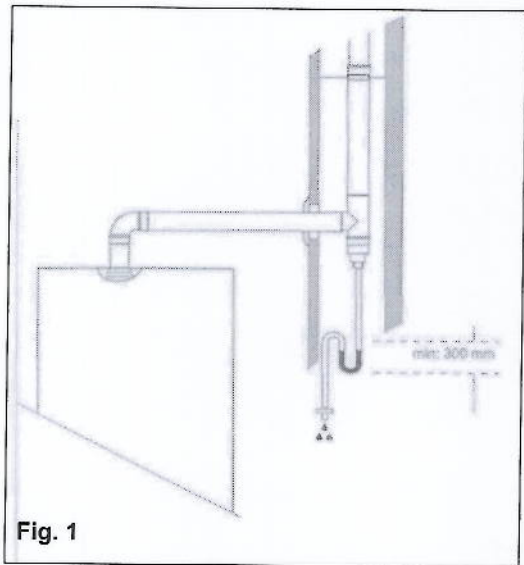

Fig. 1
- o in case of a vertical flue pipe installation, a condensate trap is fitted at the base of the flue installation and connected into drainage system (see fig. 1);